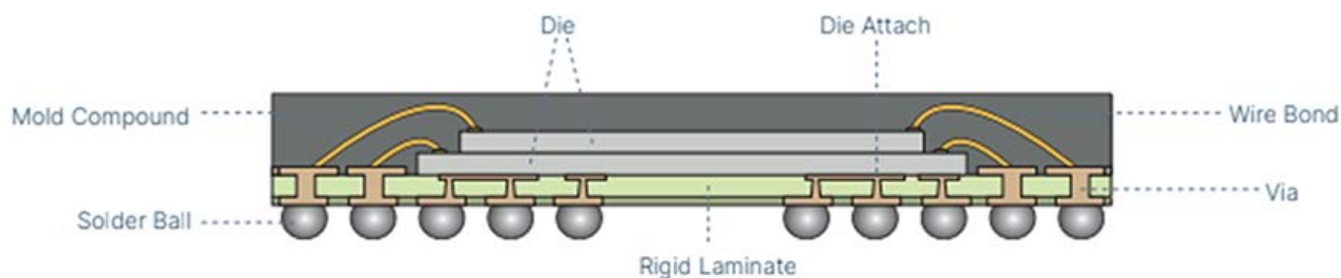

Figure 2. Cross-section of a SiP.
- Interposers, which enable interconnect between low- and high-resolution substrates, matching CTE, as well as stiffening the mechanical structure (**Figure 2**).